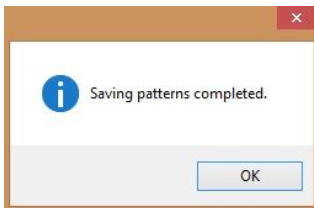

Fig. 105 - a message informing about the completion of saving cutting patterns
- after opening the target folder and clicking 'Ok', the PRG files will be saved in it, and the user will be informed, that the operation has been completed in a message '**Saving pattern completed**' (Fig. 105);